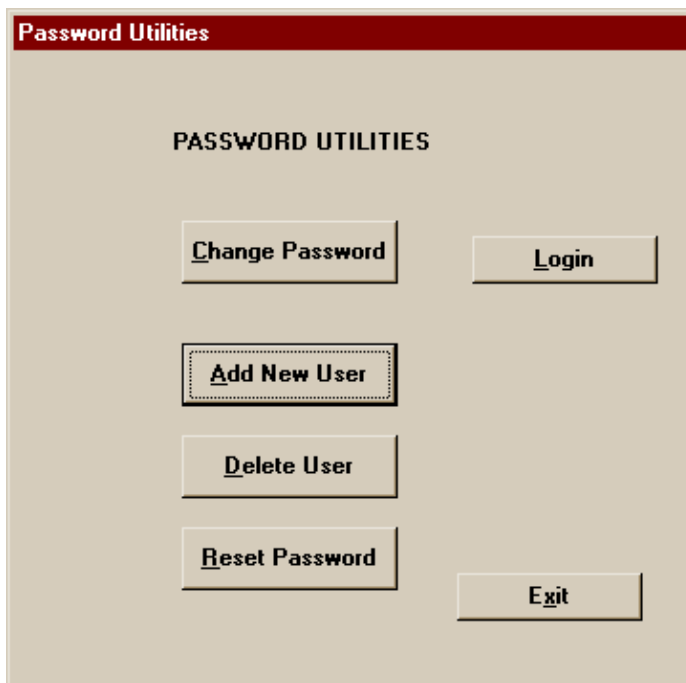

Figure 9. Password Utilities Screen
This function is used to allow established users (logon privileges already assigned) to change their existing passwords to new passwords (refer to Figure 9).
2. Click on the **"Add New User"** control button (refer to Figure 9).
2. Click on the "**Reset Password**" control button (refer to Figure 9).